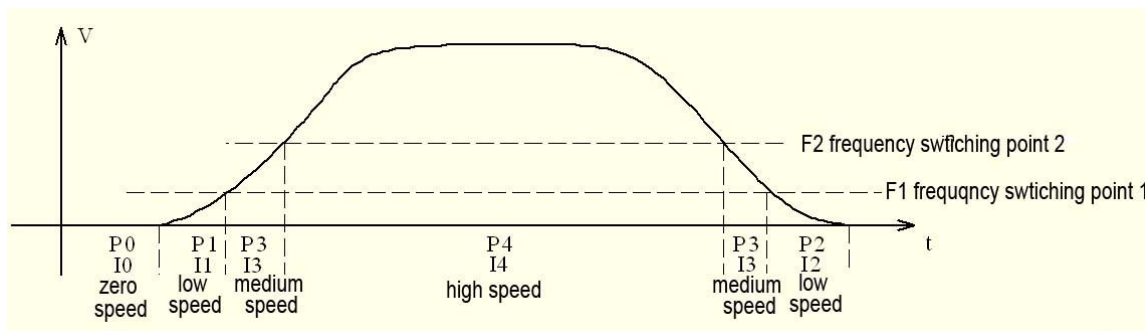

Figure 7.7 Elevator Operation Curve Sectional PI Control
- d) See Figure 7.7 for elevator operation curve sectional PI control.